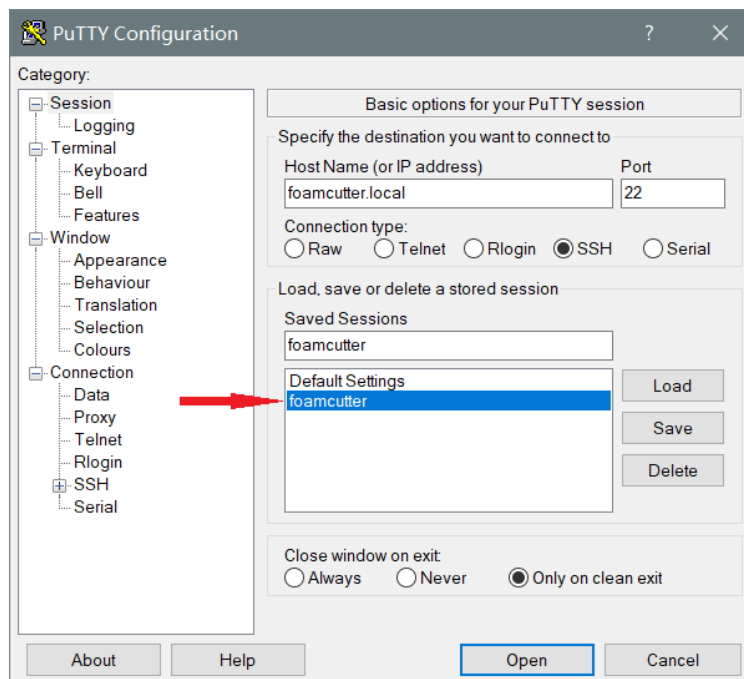

Figure 3.1: SSH to the Raspberry Pi
2. Double click on the saved PuTTY session named “foamcutter” as shown in fig 3.1 below.